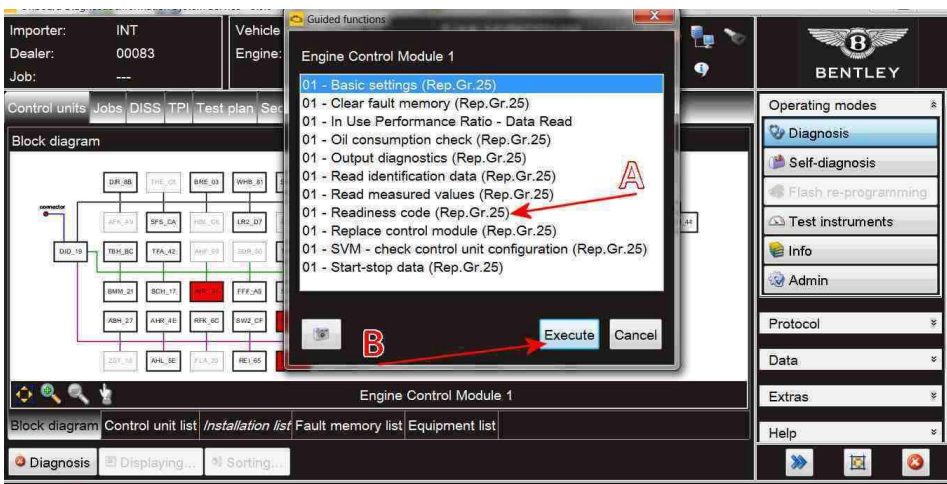

Figure 7
7) Referring to Figure 7, Navigate to Readiness code (Point A)